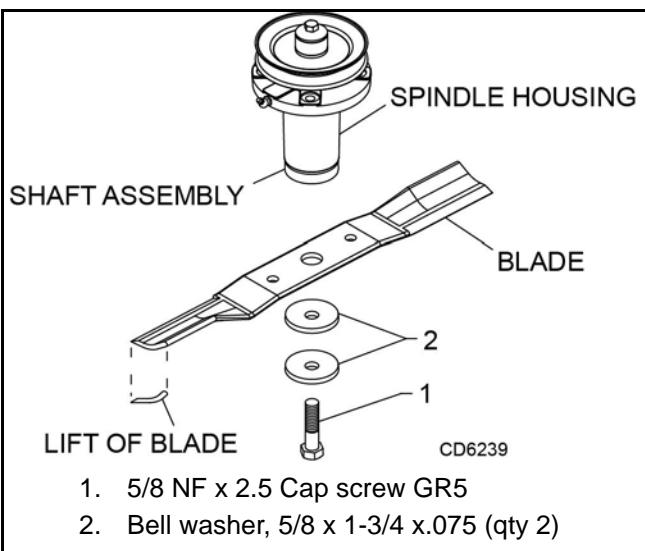

Figure 19. Blade and Spindle Assembly
1. Remove bolt (1), Figure 19, which has right hand threads.
2. Remove washer (2) and blade.
**NOTICE:** When installing blade, the lift of the blade must be toward the spindle blade housing as shown in Figure 19. Torque bolt (1) into shaft assembly to 100 lbs-ft.
2. Place Belleville washer (2) over blade and insert blade bolt (1). Torque blade bolt to 100 lbs-ft.